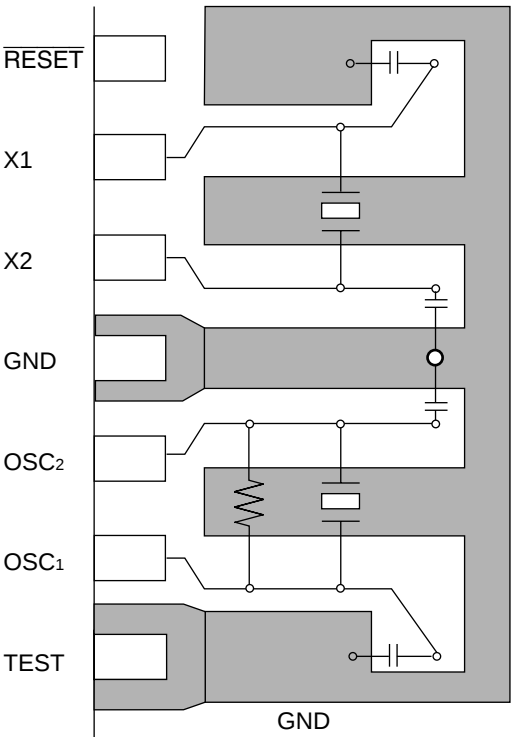

Figure 25 Typical Layouts of Crystal and Ceramic Oscillator
2. Make the connections between the OSC1 and OSC2 pins (X1 and X2 pins) and external components as short as possible, and ensure that no other lines cross these lines (see layout example in figure 25).